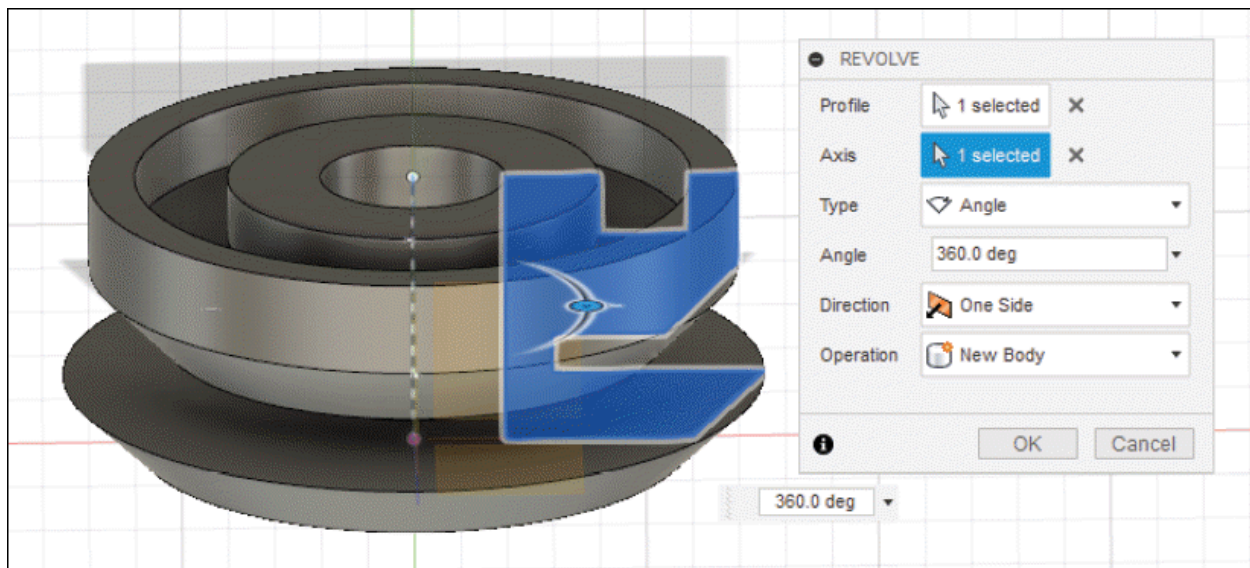

Figure-52. Preview of revolve feature
- After selecting the entities, the preview of revolve feature will be displayed; refer to Figure-52.